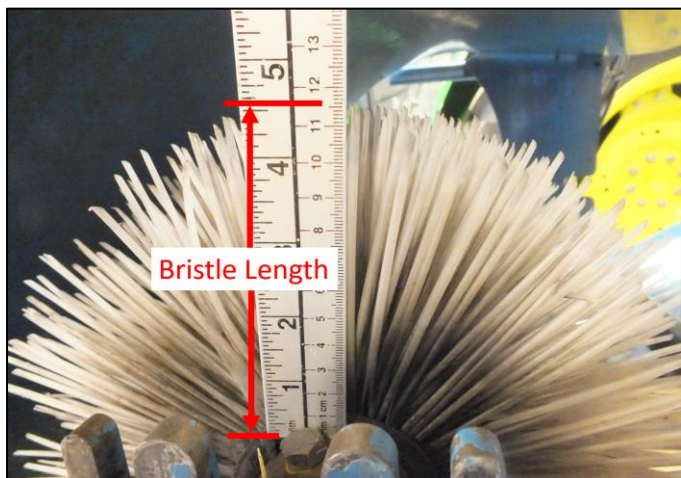

Figure 1: Harvester brush side view.
Step 1: Measure the bristle length on each side of the harvester cleaning brush (Fig. 1).